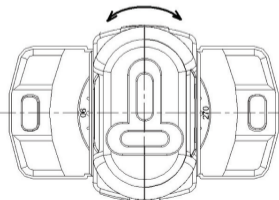

Fig. 7
7. Turn the tool according to the desired angle and make the pointer indicate the corresponding scale on the alignment plate. (see Fig.7)